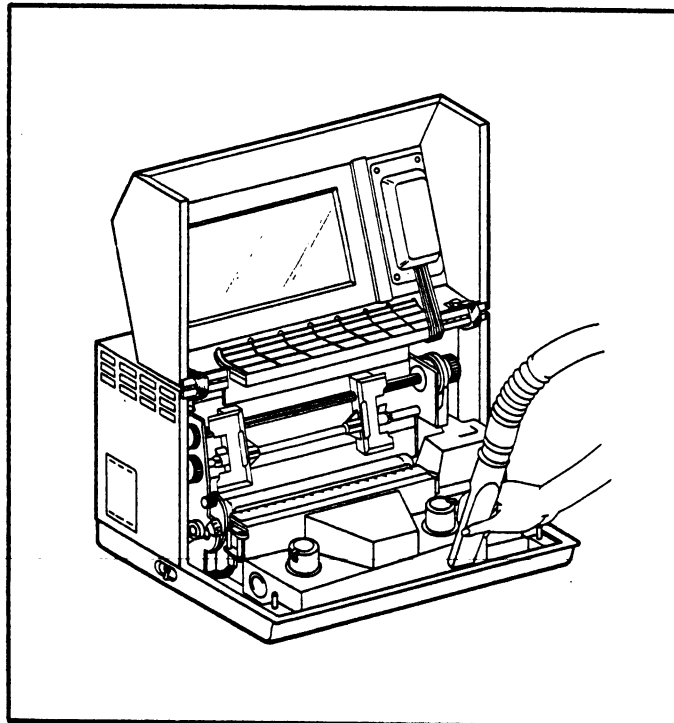

FIGURE 2-11.
3. Use a vacuum to clear dust and chaff from the base and paper path areas, Figure 2-11.